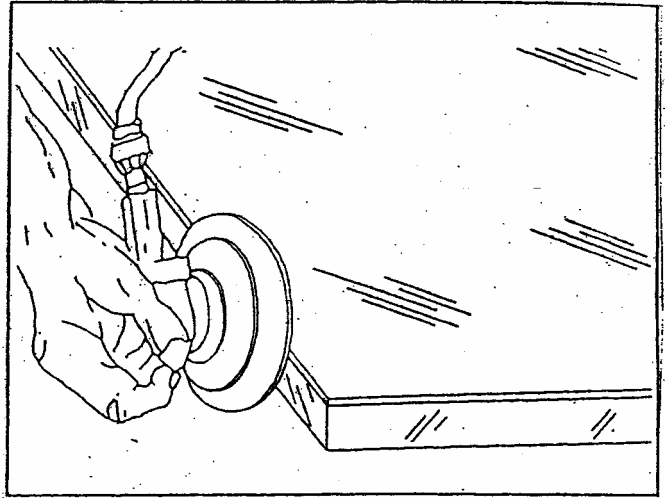

Figure 13
2. Use a 10,000 RPM dual action or orbital sander with a hard or stiff sanding pad. If there is a lot of router chatter, follow the sanding sequence below. However, if there is only a small amount of chatter, you can skip sanding with 120 grit and go straight to the second sanding step. See Figure 13.